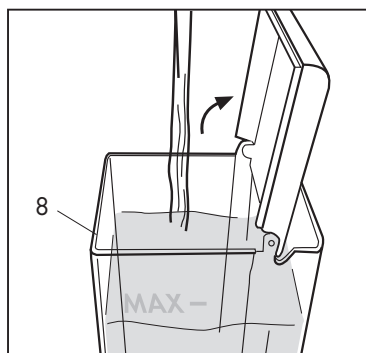

Fig. 2
- Open the cover and fill the tank to the maximum level (3 l) **(Fig. 2)**